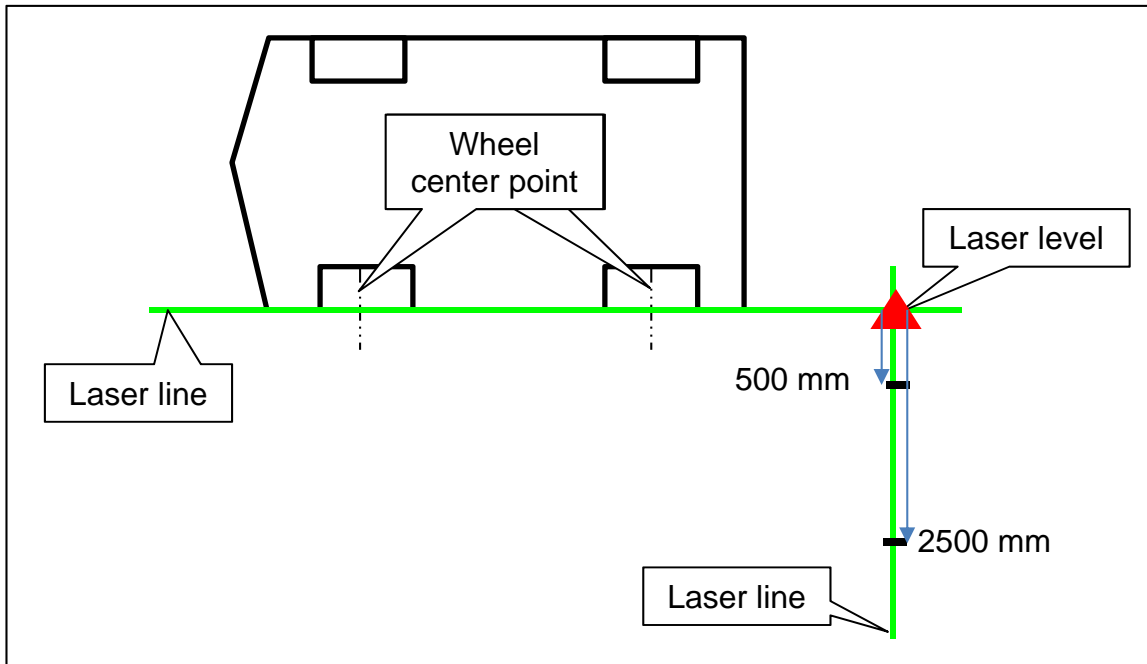
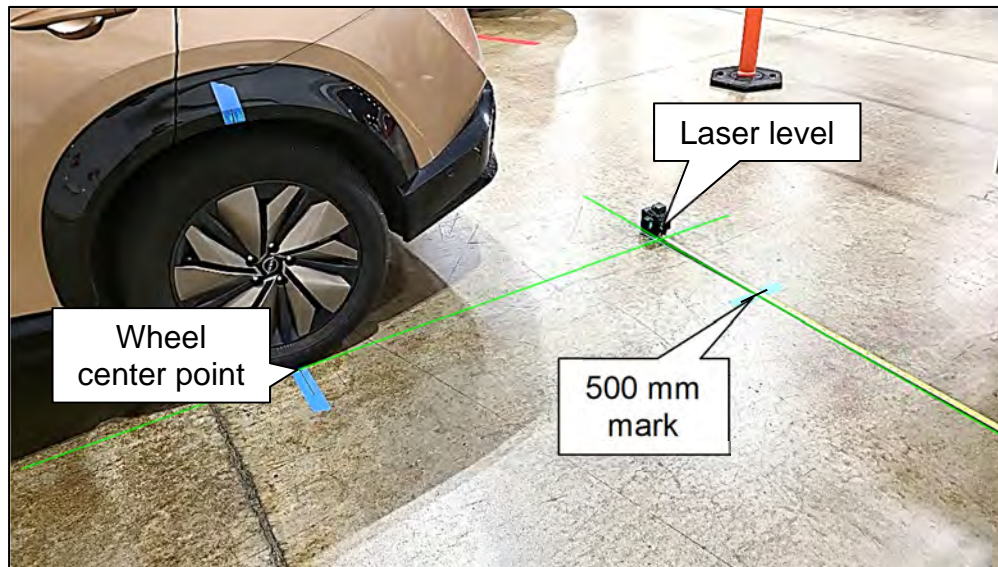

Figure 20
Figure 21
21. Activate a second vertical laser line (90° to the original laser line), and then mark a line at 500 mm and 2500 mm from the original laser line, as shown in Figure 20 and Figure 21.